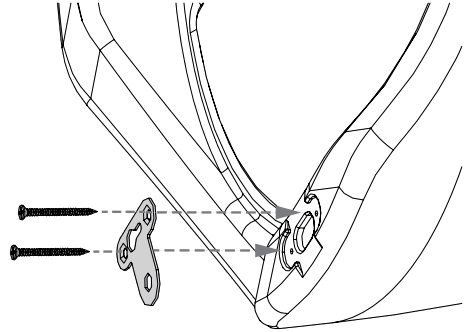

Figure 7b: Flip/Re-attach Keyway
3. Flip the keyways (as shown in **Figure 7b**), and then re-attach using the supplied screws.